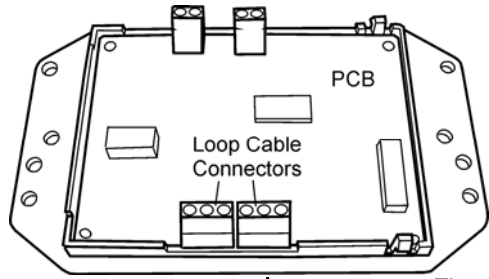

Fig 3
- ❑ Place the PCB into the CHQ Adaptor ensuring the loop cable connectors sit within the correct cut-away at the bottom edge of the raised section of the adaptor (see Fig 3 overleaf).